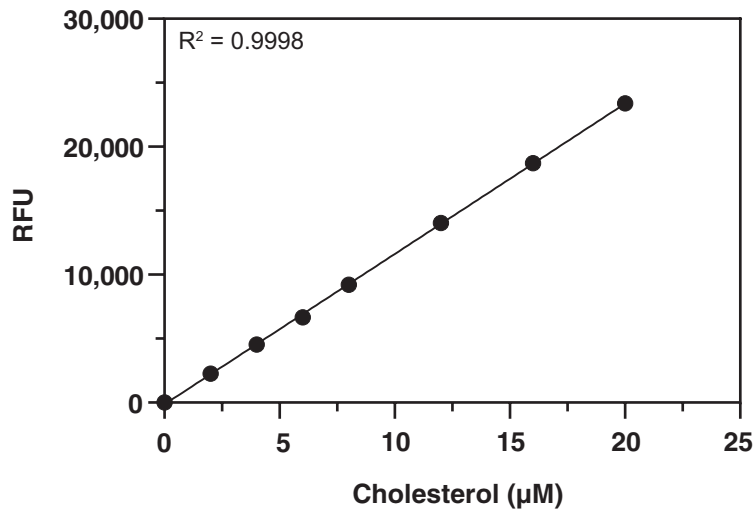
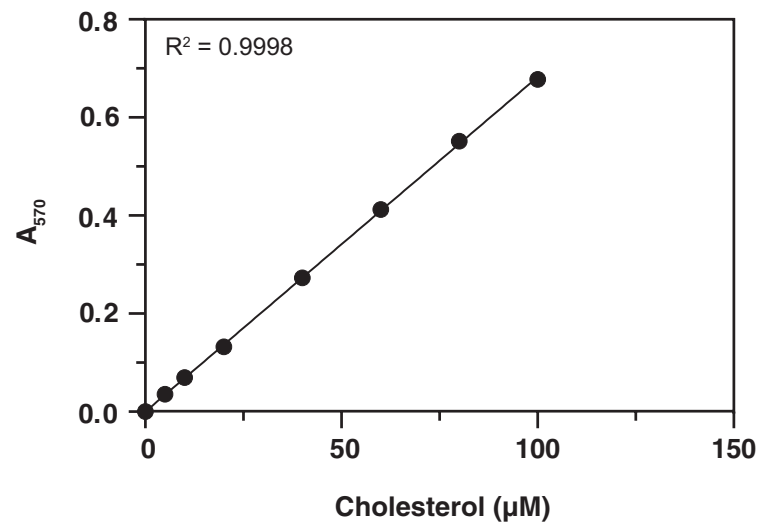

Figure 3. Cholesterol fluorometric standard curve
Figure 4. Cholesterol colorimetric standard curve
3. Plot the CSM values of the standards (from step 2 above) as a function of the final concentration of cholesterol from Table 1 and Table 2, pages 15 and 16, respectively. See Figure 3 for a typical fluorometric standard curve and Figure 4 for a typical colorimetric standard curve.